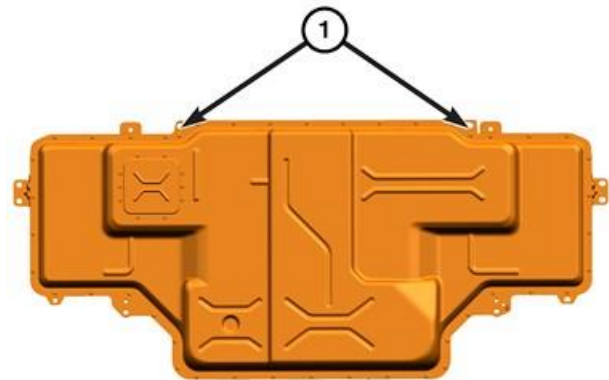

Figure 33 – Support Mounting Holes
- 57. Install two Eyebolt, 10mm 2035203080 with the nuts to the front support mounting holes (1) (Figure 33).